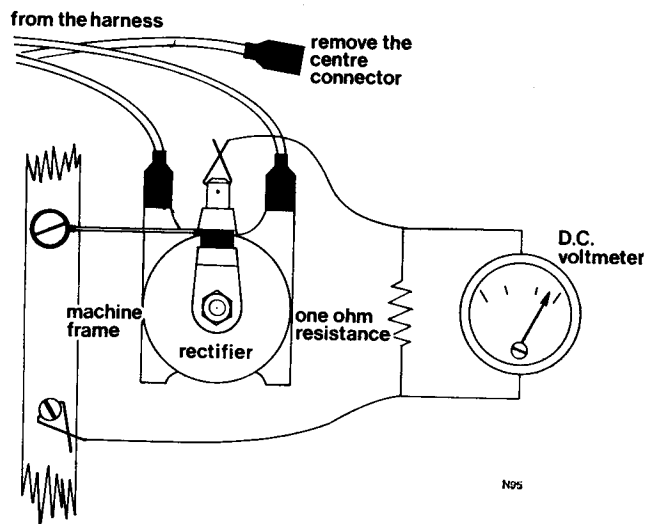

Fig. J2 Rectifier test connections
- (b) Connect D.C. voltmeter (with 1 ohm resistor in parallel). Red lead to earth (frame), black lead to rectifier centre terminal (see Fig. J2).